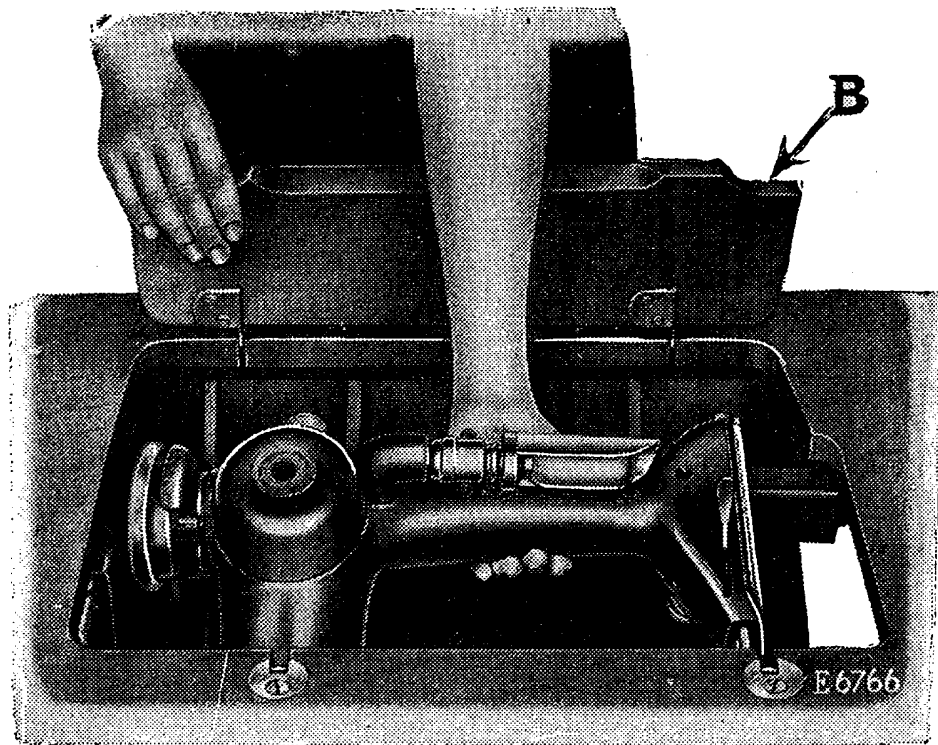
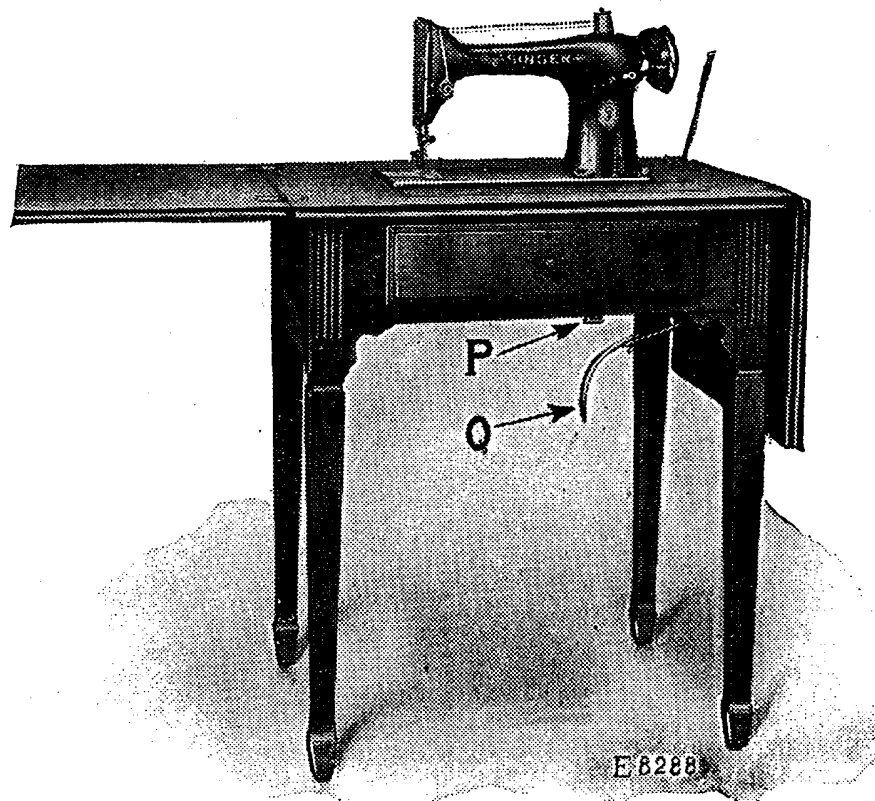
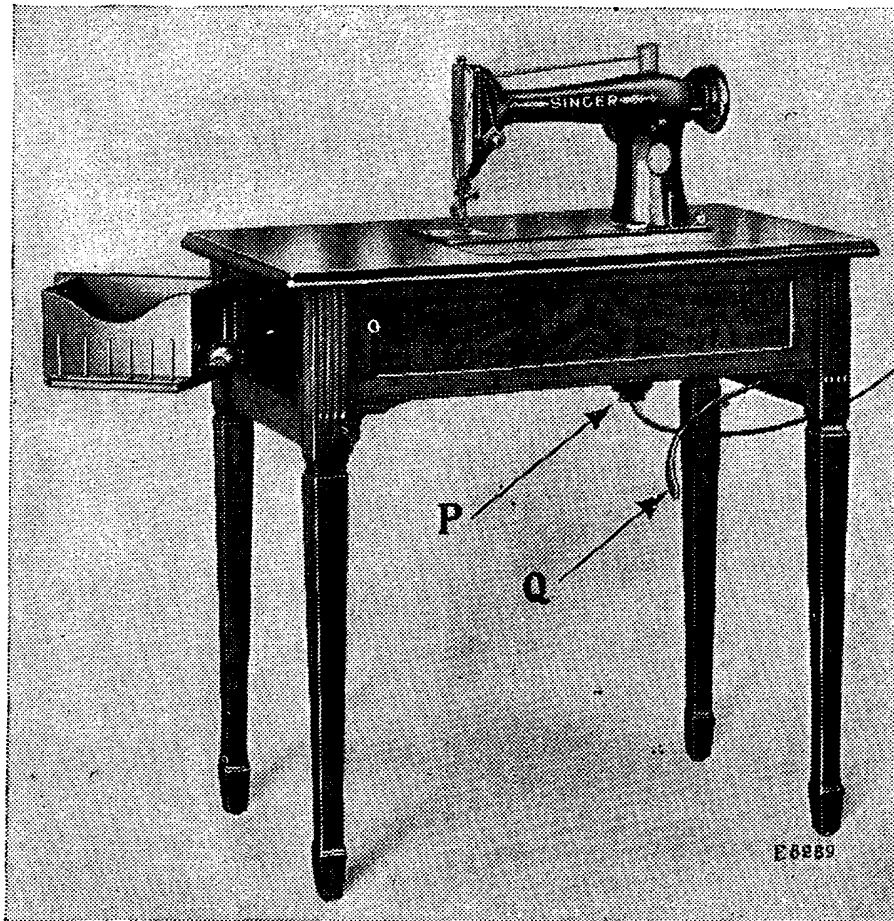

FIG. 5. RAISING MACHINE OUT OF CABINET 40
FIG. 6. KNEE LEVER LOWERED TO OPERATING POSITION
FIG. 10. KNEE LEVER LOWERED TO OPERATING POSITION
With the right hand raise the front hinged portion (B, Fig. 5) of the table, and at the same time, place the left hand under the front side of the arm of the machine, as shown in Fig. 5, **being very careful not to touch the electric lamp or shade**, and raise the sewing machine head, then replace the hinged portion of the table and lower the machine so that it rests on the table, as shown in Fig. 6.
Pull down the knee lever (Q) to the vertical position as shown in Fig. 6.
Push the terminal plug at one end of the electric cord as far as it will go on the three-pin terminal block under the cabinet, as shown at (P) in Fig. 6.
Raise the sewing machine head out of the cabinet as shown in Fig. 5, **being very careful not to touch the electric lamp or shade**, then turn down the hinged flaps of the table top and lower the machine so that it rests on the table as shown in Fig. 10.
Pull down the knee lever (Q) to the vertical position as shown in Fig. 10.
Fig. 10 shows the swing-out drawer at the left of the table. This drawer is provided with holders for spools, bobbins and oil can and has a compartment for the box of attachments.
Push the terminal plug at one end of the electric cord as far as it will go on the three-pin terminal block under the cabinet as shown at P in Fig. 10. Attach the plug at the other end of the cord to the nearest electric socket and the machine is ready for operation.
With the left hand grasp the machine around the front side of the arm, turn it slightly back on its hinges, and at the same time, with the right hand, raise the front hinged portion (B, Fig. 5, page 7) of the table, lower the machine head, **being careful not to touch the electric lamp or shade;** then lower the hinged portion (B).